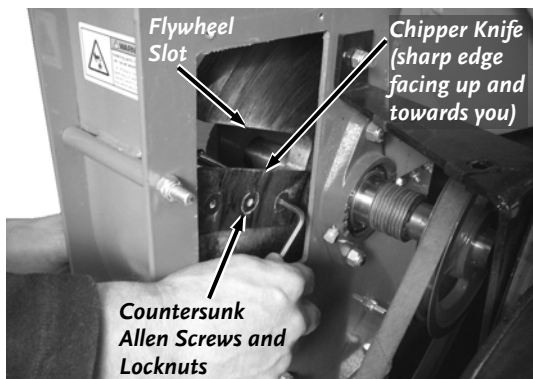

Figure 31
3. Rotate the Flywheel using a long stick until the three countersunk Allen Screws and Lock Nuts attaching the Knife to the Flywheel are visible through the Access Openings (**Figure 31**).
9. Install a new or sharpened Knife as shown (**Figure 31**) with the Knife edge facing up and towards you and finger tighten the Allen screws and Lock Nuts (use the new hardware supplied with a new Knife kit) to hold the Knife to the Flywheel.